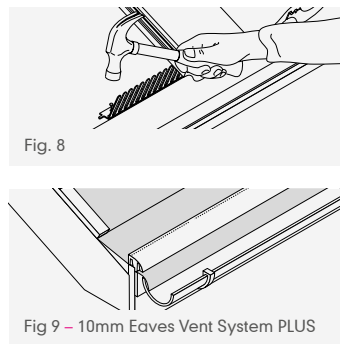

Fig. 8
- 9 Nail comb eaves filler strip to top of fascia board using 45mm x 3.35mm (10mm OFV) or 60mm x 3.35mm (25mm OFV) aluminium nails at every nail hole position (Fig 8).